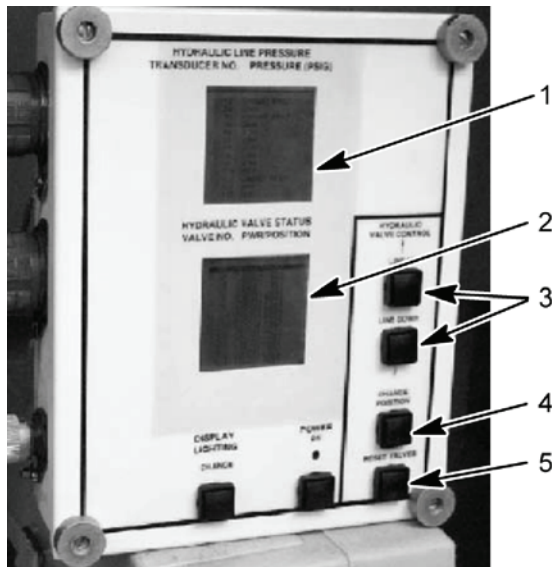
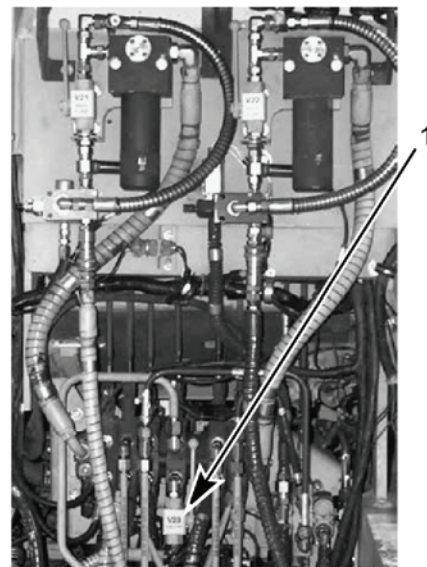

Figure 9. HDC Control Box
Figure 10. DCV Bank
- Reset all HDC solenoid valves by selecting the RESET VALVES button (Figure 9, item 5) on the HDC control box.
- Disable ejector by manually closing the ejector inhibit ball valve V23 (Figure 10, item 1) on the DCV bank. Using LINE UP or LINE DOWN button (Figure 9, item 3), select V1 on the HDC display (Figure 9, item 2). Close V1 on the HDC display (Figure 9, item 2) by selecting the CHANGE POSITION button (Figure 9, item 4) on the HDC control box.
- Have assistant start engine, move the SPRUNG/UNSPRUNG lever to SPRUNG and move EJECTOR CONTROL lever to BACK. Read transducer T-3 hydraulic pressure on the HDC display (Figure 9, item 1).
- While holding the EJECTOR CONTROL lever to BACK, have assistant move the right-hand SUSPENSION CONTROL lever to RAISE. Read transducer T-3 hydraulic pressure on the HDC display (Figure 9, item 1).
- Enable ejector by manually opening the ejector inhibit ball valve V23 (Figure 10, item 1) on the DCV bank. Using LINE UP or LINE DOWN button (Figure 9, item 3), select V1 on the HDC display (Figure 9, item 2). Open V1 on the HDC display (Figure 9, item 2) by selecting the CHANGE POSITION button (Figure 9, item 4) on the HDC control box.